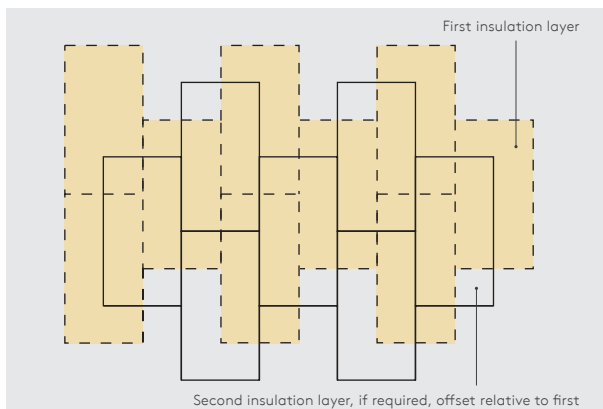

Figure 10: Offsetting of Multiple Insulation Layers
- If two layers of insulation are required, they should be horizontally offset relative to each other so that, as far as possible, the board joints in the two adjacent layers do not coincide with each other (see Figure 10).